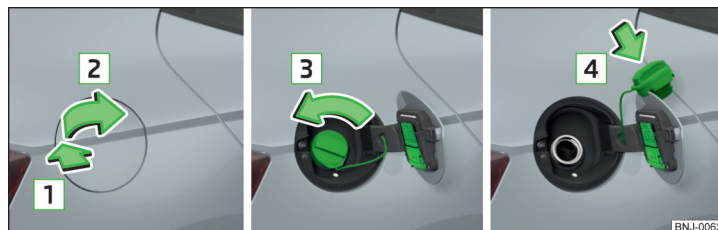

Fig. 166 Open fuel filler flap / unscrew tank cap / place the tank cap on the fuel filler flap
- Press the fuel filler flap in direction of arrow [1] and fold in the direction of arrow [2] » Fig. 166.